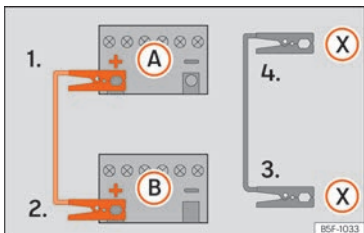

Fig. 82 Diagram of connections for vehicles with Start Stop system
- 4b. *In vehicles with a Start-stop system:* connect one end of the **black** jump lead (X) to a suitable ground terminal, to a solid piece of metal in the engine block, or to the engine block itself »» Fig. 82.
5. Connect the other end of the **black** jump lead (X) to a solid metal component bolted to the engine block or to the engine block itself of the vehicle with the flat battery. Do not connect it to a point near the battery (A).